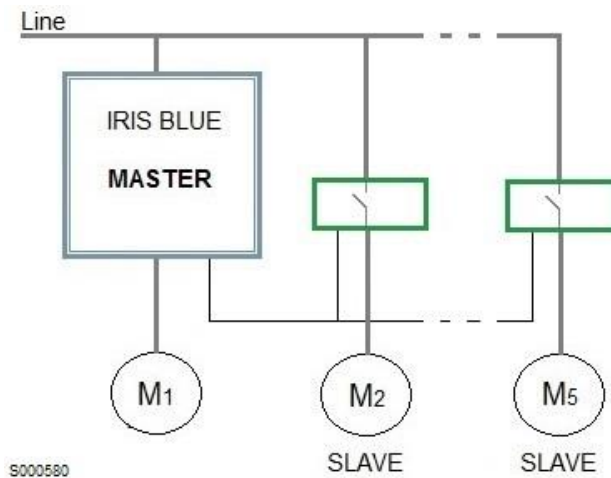

Figure 69: Block diagram of MMC operating mode – Direct On Line
- Direct On Line (DOL): consists in connecting the motor directly to the mains power supply by simply placing a disconnecting switch. See Figure 69.